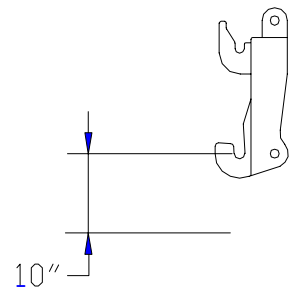

Figure 5
- Distance between center of lower pin at LOWEST OPERATING POSITION and ground must be 10" (Figure 5, page 2-2). Adjust three-point hitch accordingly. Excessive operating height could result in PTO shaft failure or personal injury.